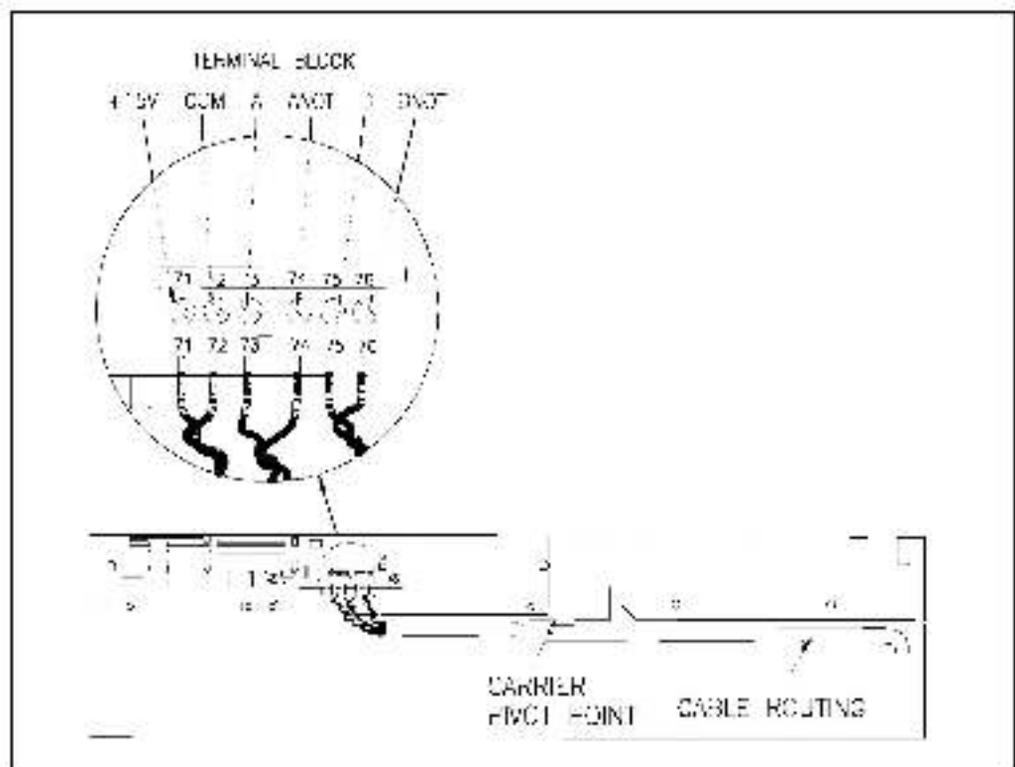

Figure 2.5 – Wiring the Pulse Encoder Interface Board
- Step 6. Refer to figure 2.5. Connect each lead to the corresponding position on the Pulse Encoder Interface board's terminal strip. Tighten the terminal strip connectors to no more than 7 in-lbs (.79 Nm).